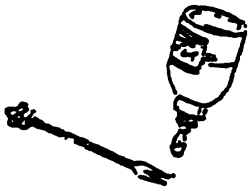

FIG A-2
- 5) Apply a drop of oil VFK1268 to the tip of some tweezers to prevent over application Fig. A-2.